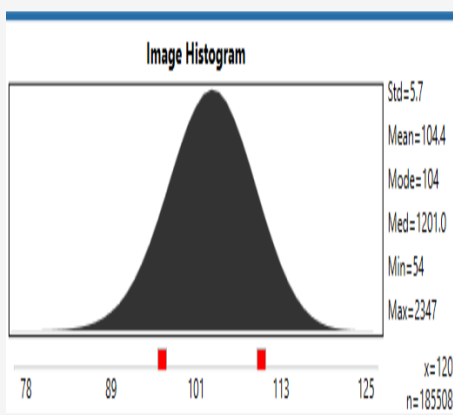

Figure 2: Stacked Frames
5. Press start to begin capture and production of a stacked frame. (**Figure 2**)